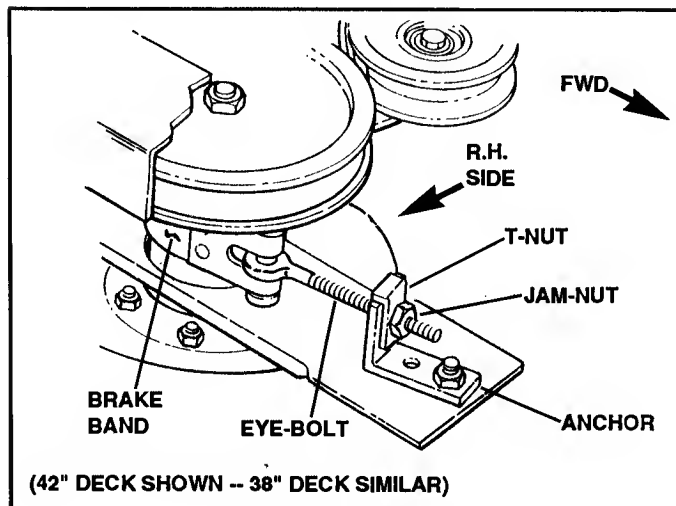

FIGURE 29
5. Tighten BRAKE BAND by loosening jam nut and turning T-nut, on end of eyebolt, clockwise 1 to 2 turns, or until brake band tightens. Make sure flanged lip on T-nut is positioned to fit over edge of anchor. See Figure 29.